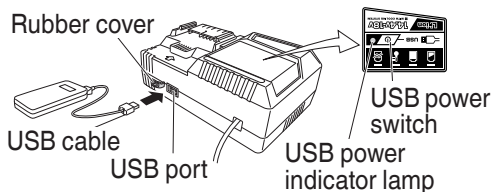

Fig. 8
- (2) Turn the USB power switch ON (Fig. 8)
- (3) Connect the USB cable. (Fig. 8)
- Turn the USB power switch OFF and unplug the power cord from the electrical outlet. (Fig. 8)